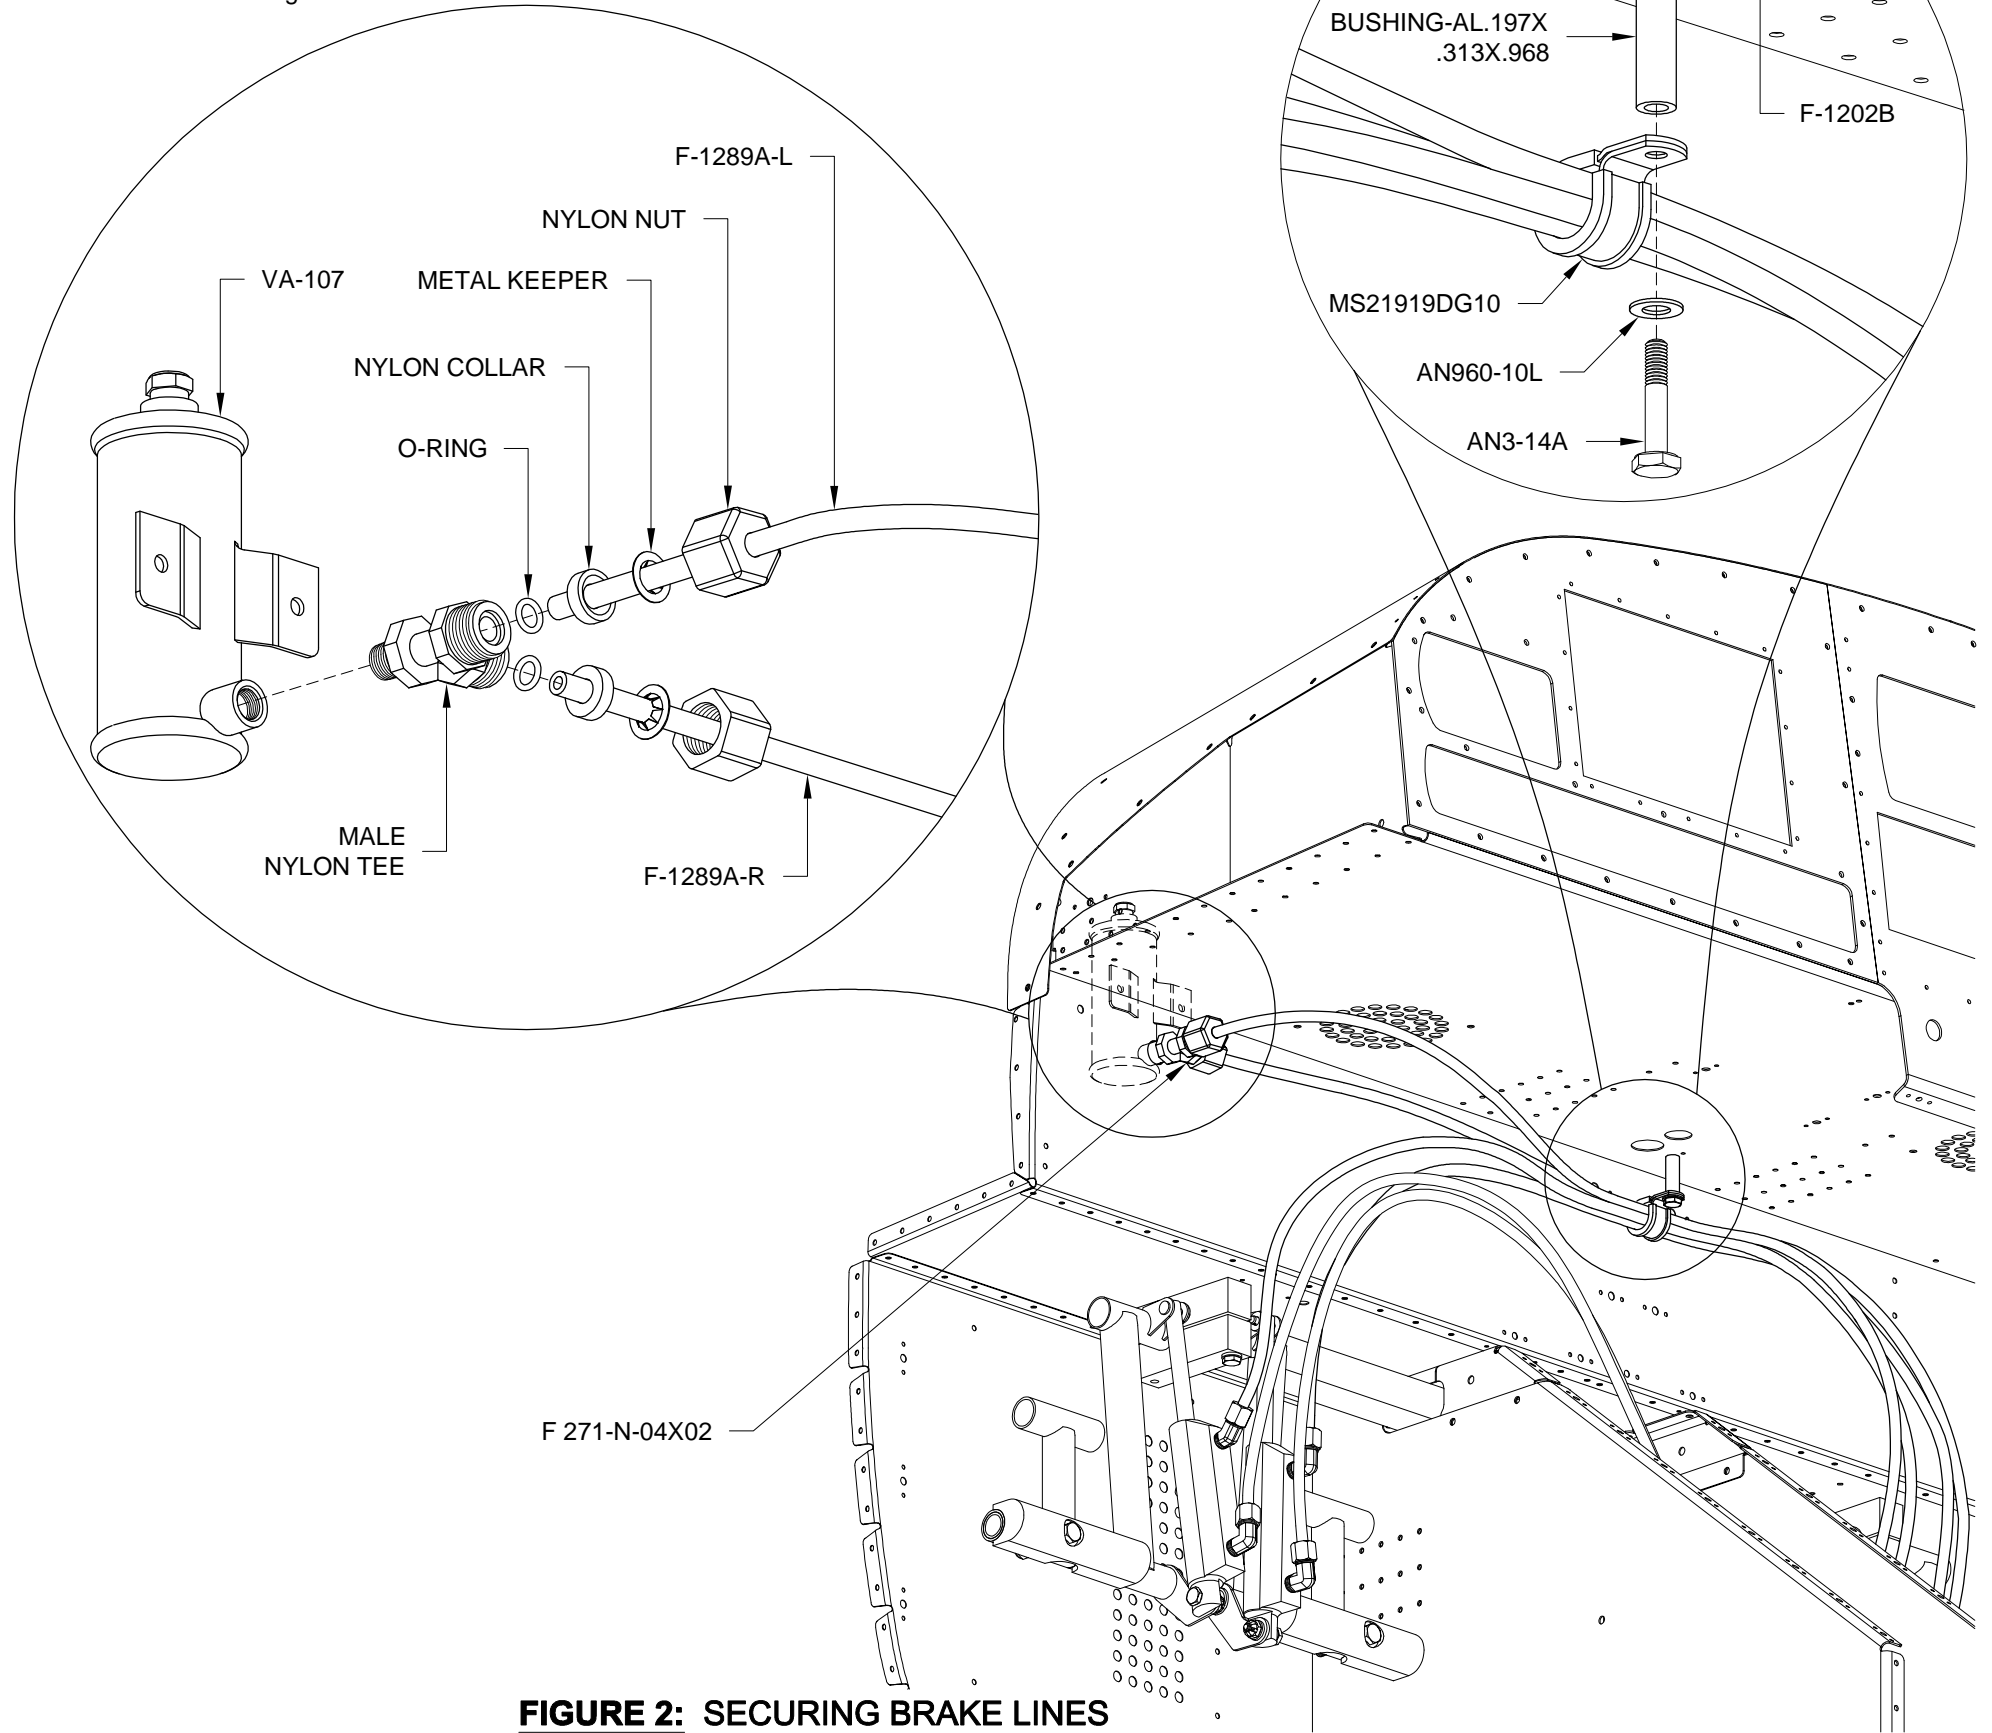

FIGURE 2: SECURING BRAKE LINES
Step 2: Secure the F-1289A-L & -R Reservoir Brake lines to the VA-107 Brake Reservoir as shown in Figure 2. Loosen the Nylon Nuts, insert the reservoir brake lines, push hard until they bottom-out in the Male Nylon Tee, then tighten the Nylon Nuts. Use thread sealant for the connection between the Male Nylon Tee and the brake reservoir.
Step 3: Secure the F-1289A-L & -R Reservoir Brake Lines and F-1289B-L & -R Cross-Over Brake lines (the four brake lines attached to the right side master cylinders) to the bottom of the F-1202B Panel Base using the hardware called out in Figure 2.